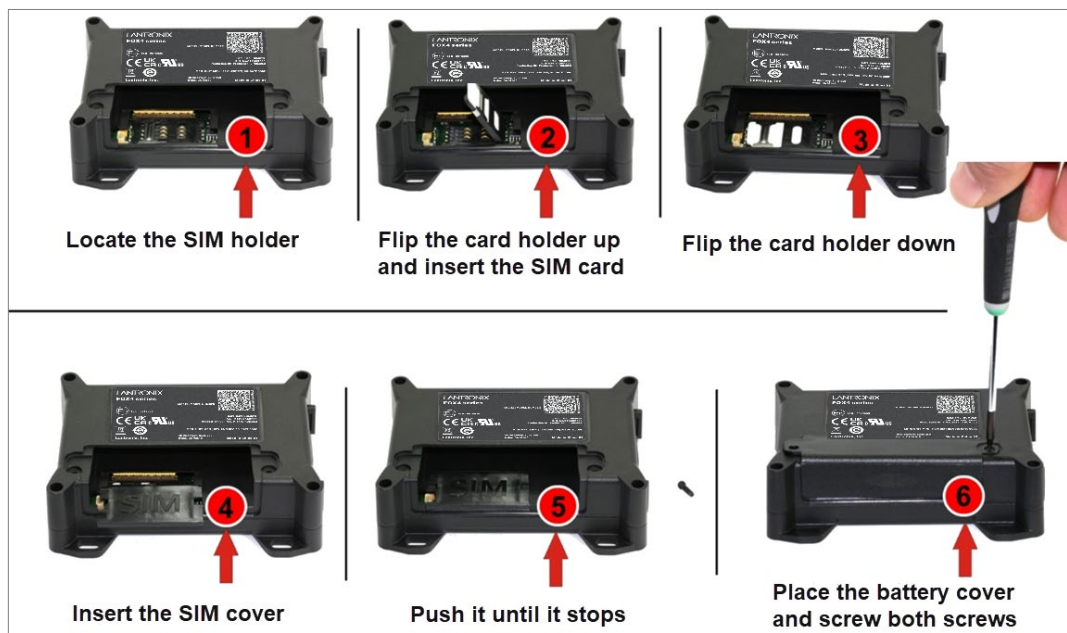

Figure 16: Steps for inserting the SIM card into FOX4-4G device
1. Remove the power supply and any other connections from the device. Turn the FOX4-4G device on its back side as shown in Figure 16 below.
2. Locate the SIM card holder (1). To open it, push the metal slider in direction marked **OPEN**.
3. Flip the card holder up and Insert the SIM card into the card holder (2) in direction as shown in the figure below.
4. Flip the cardholder back (without force) (3), then hold it pressed and move the metal slider in direction marked **LOCK** until it stops.
5. Insert the SIM card cover in the direction as shown in picture below (4) and slide it until it stops (5).